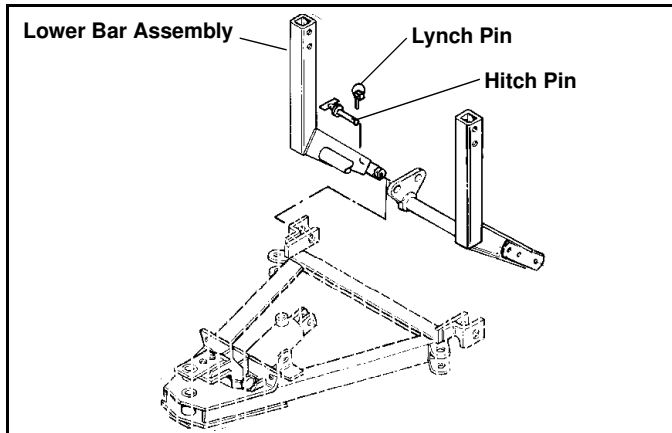

Figure 2
4. Remove lower Hitch Pins. Mount Lower Bar Assembly to Main Plow Frame by sliding bosses on Pivot Bars into holes in A-Frame. Use long Hitch Pins (#96100015) to locate and secure. Reuse Lynch Pins. (See Figure 2)